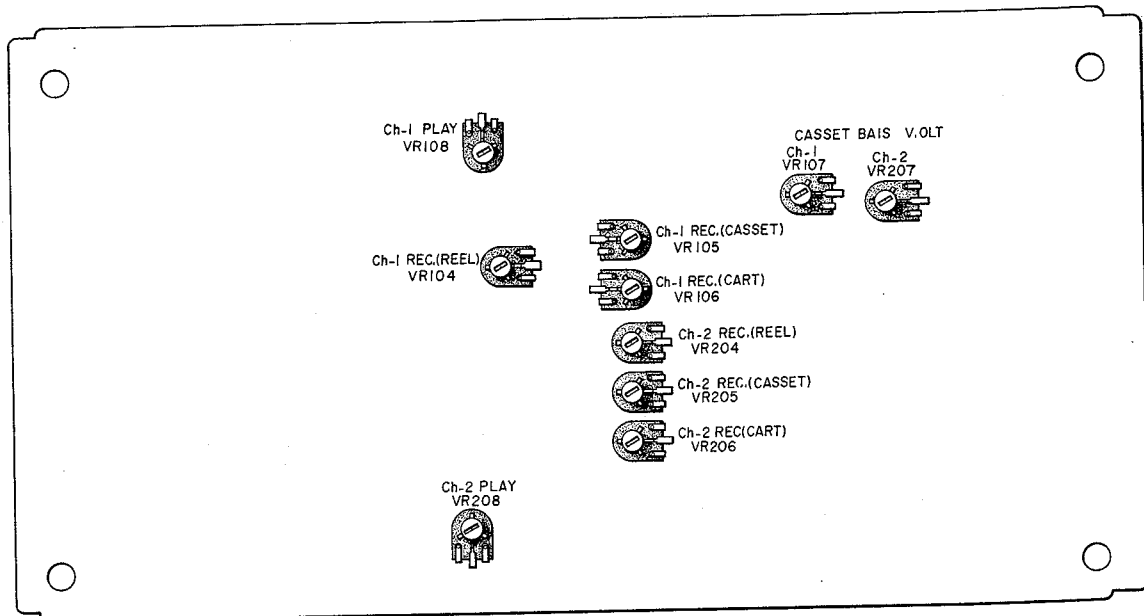

Fig. 3
- Cassette (See Fig. 3)
#### (A) Playback Output Level (Pre-Amplifier Adjustment (REEL) (Ref. Fig. 3)
- c) Adjust VR-108, and VR-208 (semi-fixed resistor 30 KB Fig. 3) of the pre-amplifier so that the Line Output Voltage is 1.228 V ( $\pm 4$  dB).